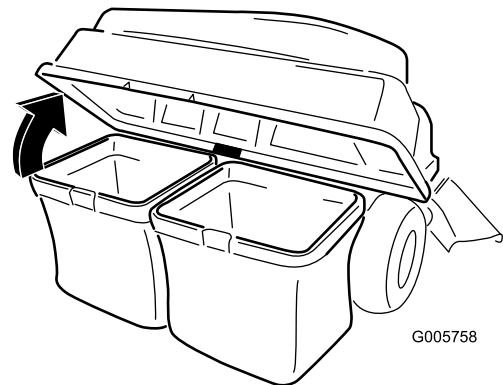

Figure 45
3. Open (raise) the bagger top (Figure 45).